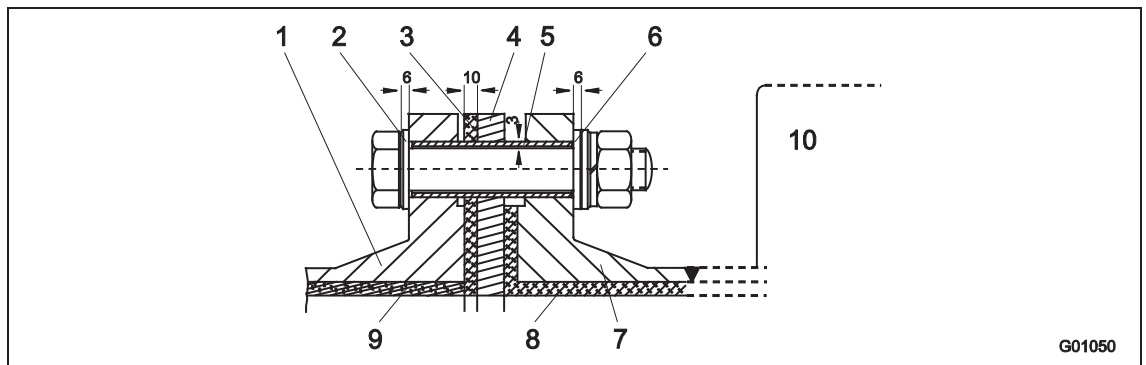
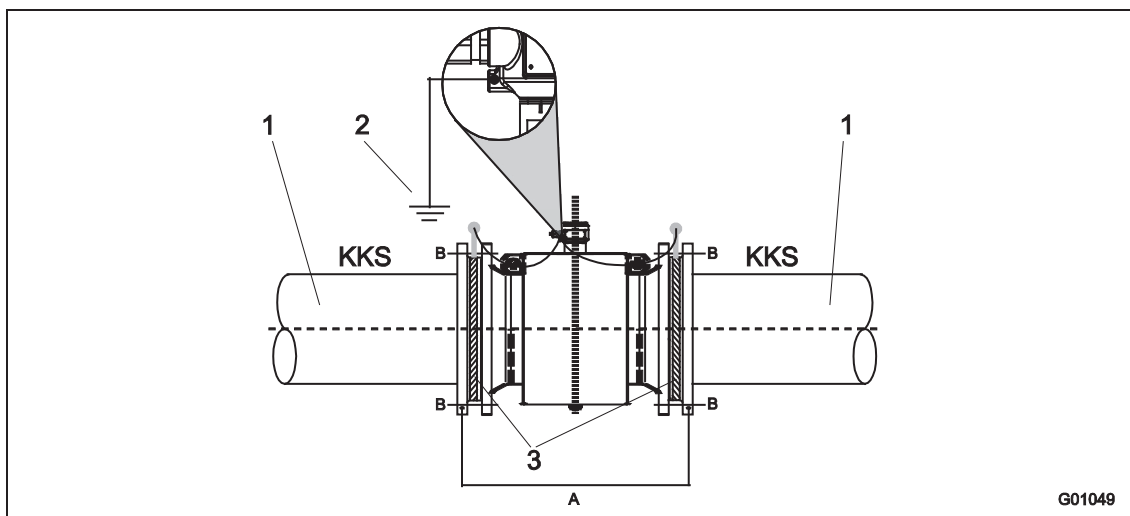

Fig. 30: Bolt screw view
Fig. 31: Flowmeter sensor with grounding plate and functional ground
- When installing an EMF in pipes with insulating inner lining and free from foreign matter, it should be insulated with grounding plates on the upstream and downstream side. The CCP potential is diverted. The grounding plates upstream and downstream of the EMF are connected to functional ground (Fig. 30 / Fig. 31).